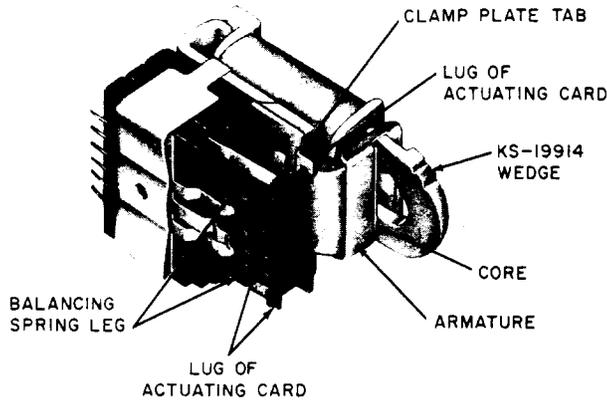

Fig. 11—Blocking BF-, BG-, BJ-, BL-, and BM-Type Miniature Wire-Spring Relays - Operated
Fig. 11 and 12—Block relays operated as covered in (1) and nonoperated as covered in (2) using the KS-19914 wedge. The wedge is a "U" shaped tool having two legs each terminating in beveled edges. In using the tool, the legs are deflected toward each other to permit the outer edge of each leg to pass the backstop side legs.
- (1) To block relays operated, deflect the legs of the KS-19914 wedge toward each other and insert them between the core and the